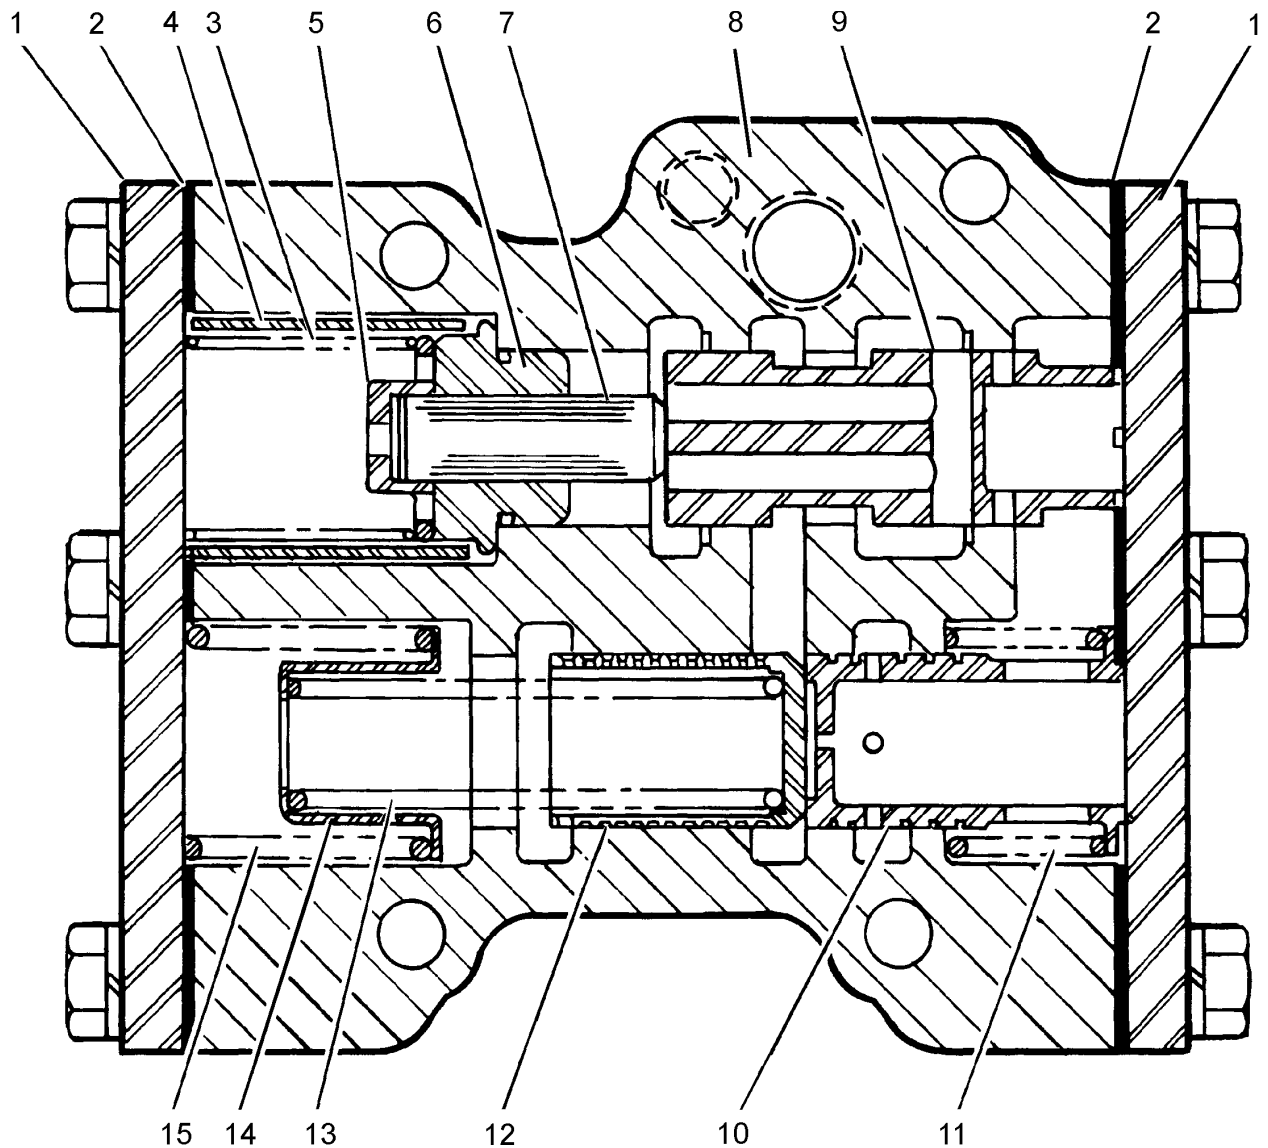

Fig. 7C.68. Cross Section of Rate of Rise Valve
18. REMOVAL AND DISASSEMBLY (Refer to Fig. 7C.68 and 7C.69)